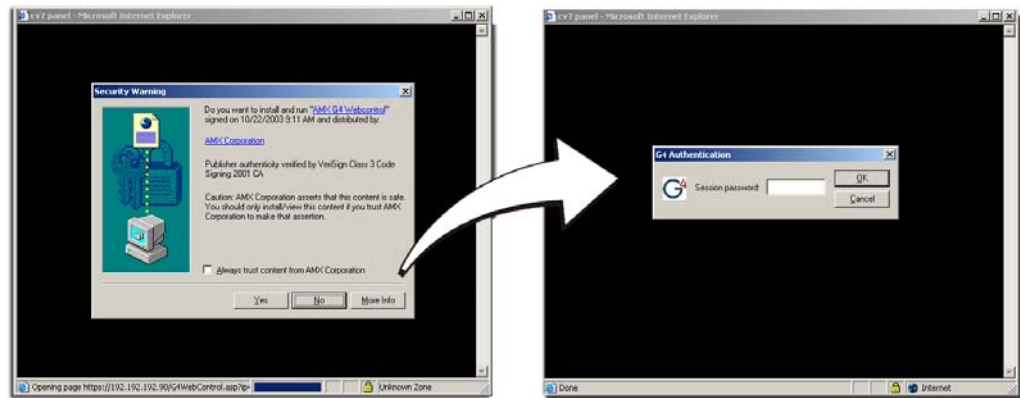

FIG. 91 Web Control VNC installation and Password entry screens
6. Click on the G4 panel name link associated with the target panel. A secondary web browser window appears on the screen (FIG. 91).
- 10.** Enter the Web Control session password into the *Session Password* field (FIG. 91). *This password was previously entered into the Web Control Password field within the G4 Web Control page on the panel.*